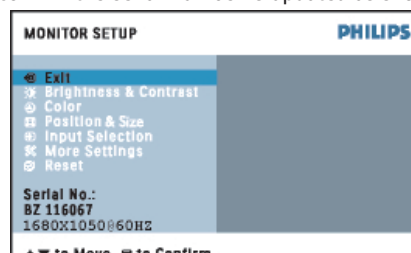

Fig.31
3. Re-confirm the serial Number is updated as shown in Fig.31.